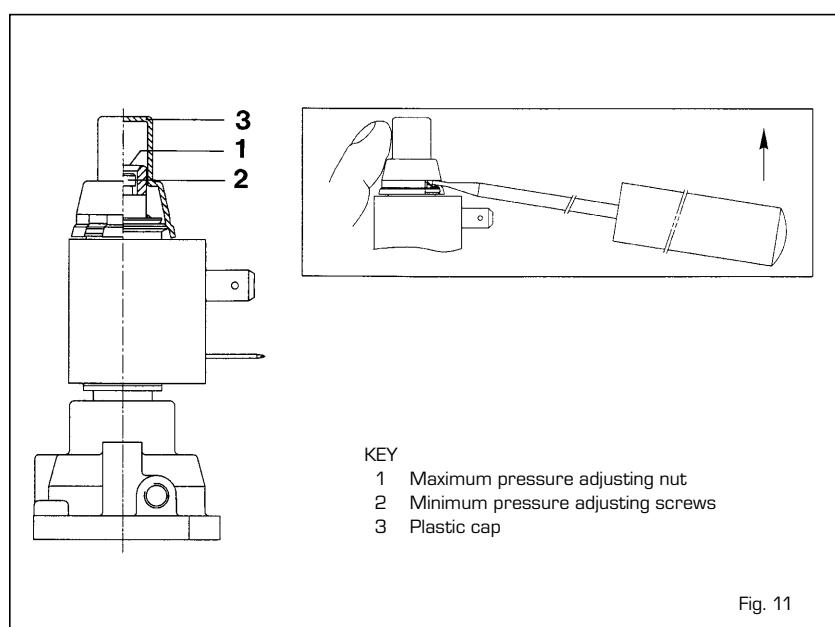

Fig. 11
4.2.1 Nominal pressure adjustment (fig. 11)
4.2.2 Reduced pressure adjustment (fig. 11)